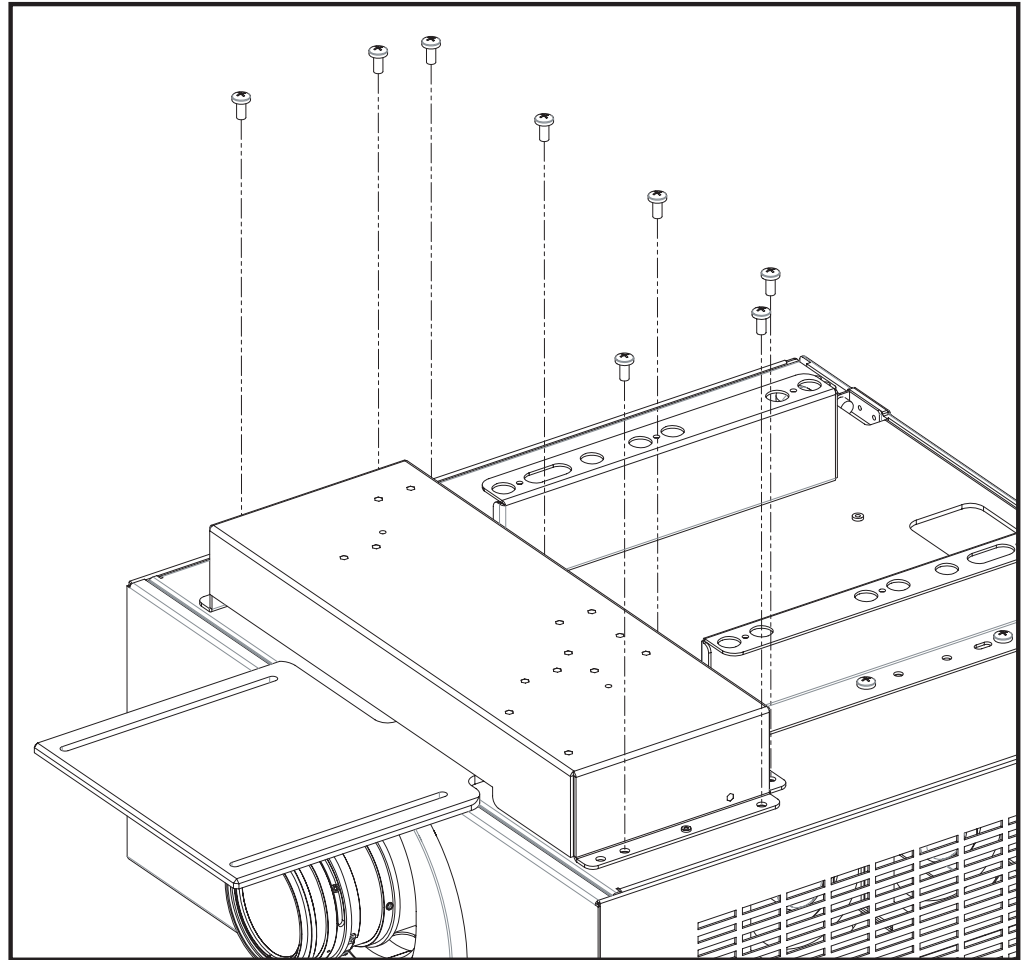

Figure 3-8. AutoScope Lens Motor Installation
1. Position the AutoScope Lens Motor as shown in Figure 3-8.
3. Secure the motor to the projector with the eight (8) remaining M6 x 12mm Pan-Head Phillips screws.